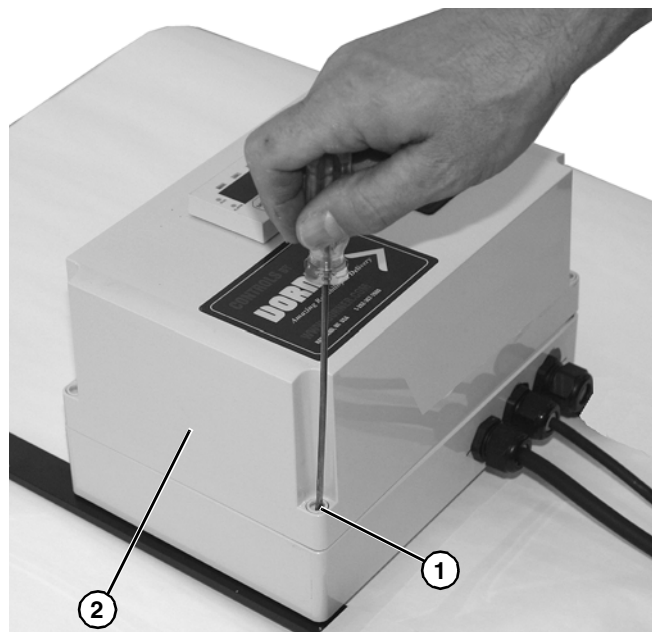

Figure 14
1. Open controller by loosening four plastic cover screws (Figure 14, item 1), and removing controller case cover (Figure 14, item 2).
5. Install case cover (**Figure 14, item 2**) with four plastic cover screws (**Figure 14, item 1**).